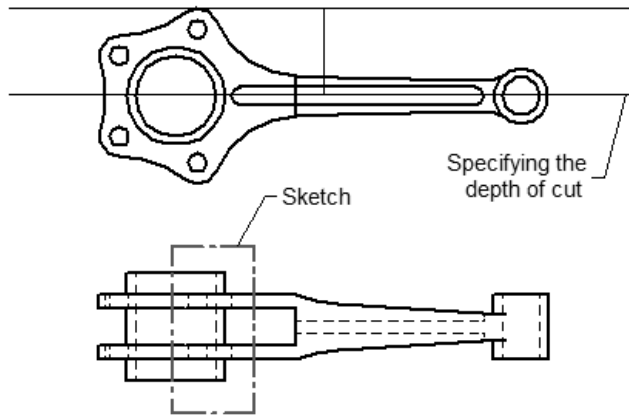

Figure 12-16 Specifying the profile and the depth of the cut
2. Draw the sketch, as shown in Figure 12-16. Next, choose the **Close Broken-Out Section** button from the **Ribbon** to exit the **Broken-Out** environment; you are prompted to specify the distance for the depth of the cut.
- Specify the distance in the **Depth** edit box present on the command bar or on the other orthographic view, as shown in Figure 12-16. After specifying the depth of the cut, you are prompted to select the view that needs to be broken.